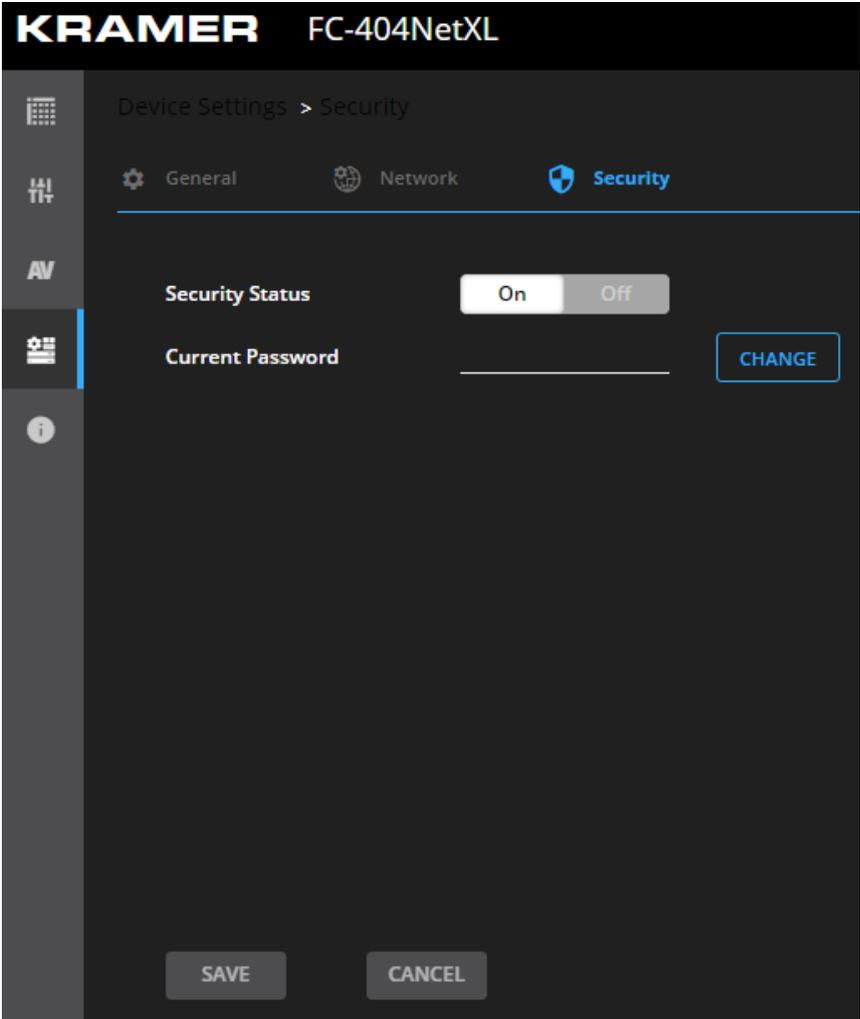

Figure 37: Security Tab
3. Click **On**. The security page appears (see Figure 37).
1. In the Navigation pane, click **Device Settings**. The Security tab in the Device Settings page appears, displaying the Security area (see Figure 37).